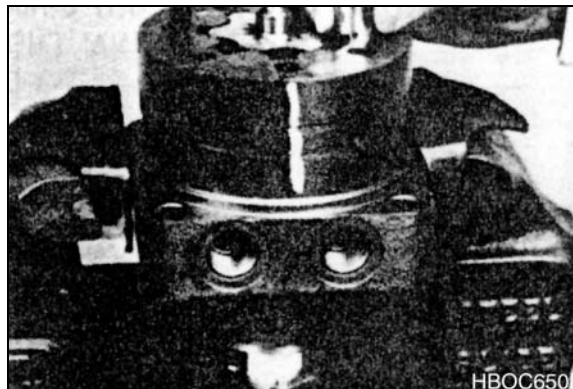

Figure 77
5. Grasp the output end of coupling shaft (12) with locking pliers or other appropriate turning device and rotate coupling shaft, drive link and rotor to seat the rotor and the assembled vanes (8C) into stator (8B), creating the necessary clearance to assemble the seventh or full complement of seven vanes. Assemble the seven vanes using minimum force. See Figure 77.
6. Remove the two assembled bolts (1) if used to retain stator and wear plate.